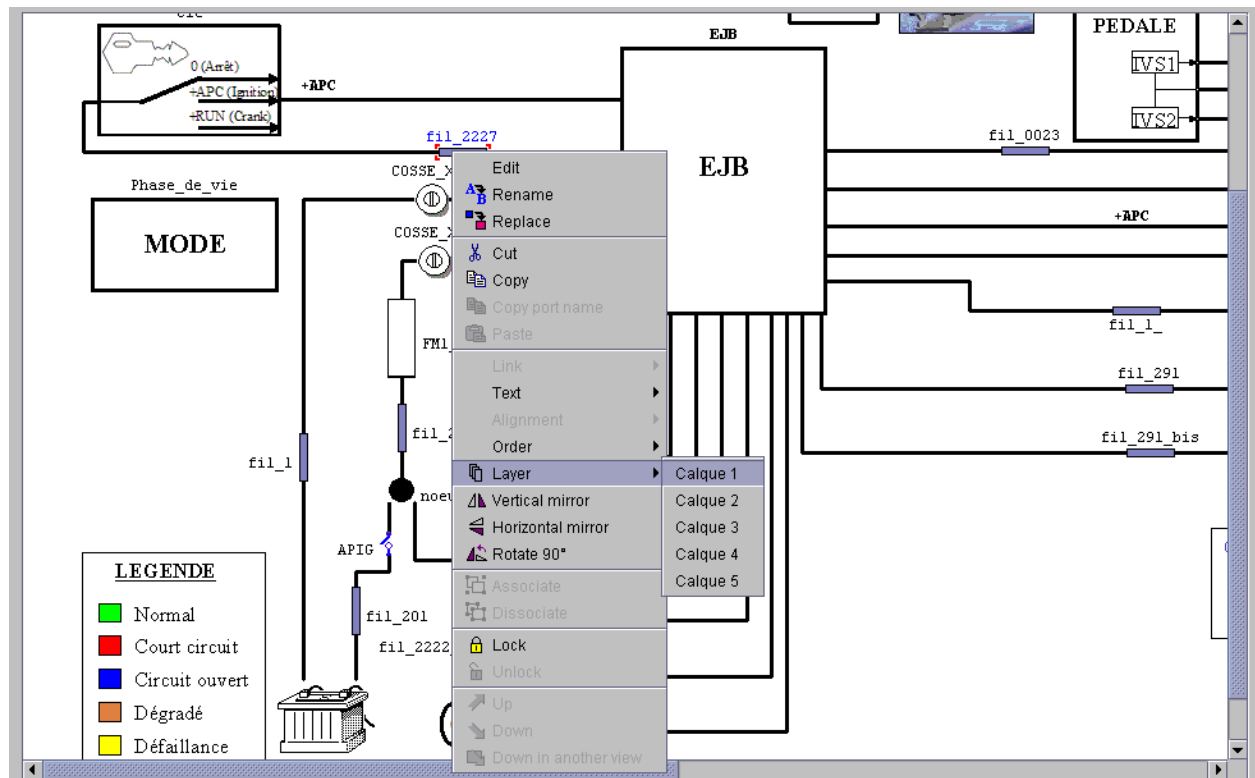

Figure 167 : To put an element on a layer
- ♦ Select the graphical element (component, equipment, link) (Figure 167),